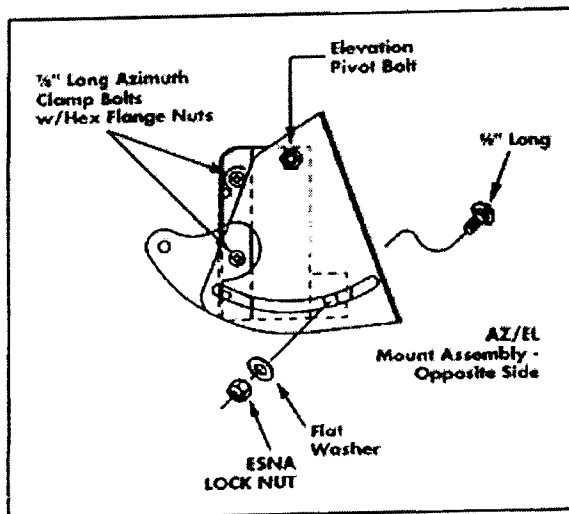

FIGURE 3
3. On clamp/mount assembly, install (2) $\frac{1}{4}$ " long carriage bolts and flange nuts as shown in Figure 3. Do not tighten at this time.
6. On the opposite side install the second $\frac{1}{2}$ " long carriage bolt through square hole in the clamp tab, elevation adjustment slot and capture with a flat washer and ESNA locknut. Tighten nut and loosen $\frac{1}{4}$ turn. See Figure 3.